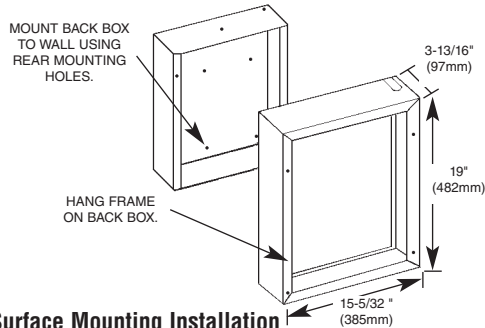

Figure 4- Surface Mounting Installation
- Insert power supply cable through cable clamp, allowing at least 6" (152 mm) of leads to extend inside the back box. Connect the blue lead wires of disconnect switch to the supply wire leads using wire connectors (see Figure 4, Wiring Diagram).
Installation of Back Box with Optional Surface-Mounting Frame HTWHSM (See Figure 4)